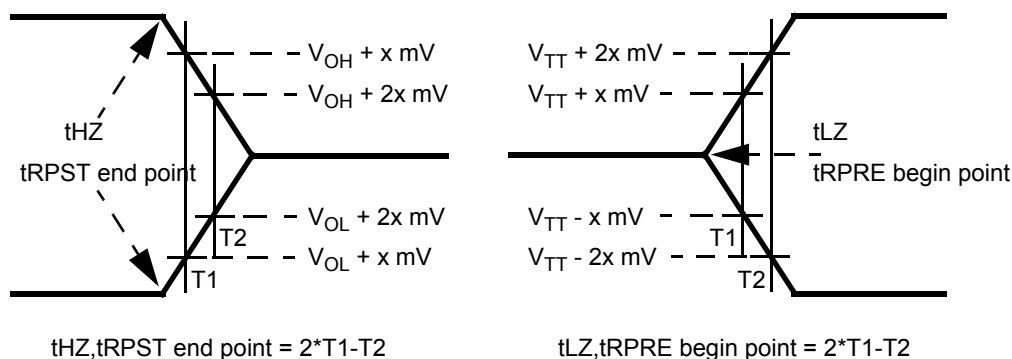

Figure 17 - Method for calculating transitions and endpoints
- $$tDAL = 4 + (15 \text{ ns} / 3.75 \text{ ns}) \text{ clocks} = 4 + (4) \text{ clocks} = 8 \text{ clocks.}$$
18. tHZ and tLZ transitions occur in the same access time as valid data transitions. These parameters are referenced to a specific voltage level which specifies when the device output is no longer driving (tHZ), or begins driving (tLZ) . Figure 17 shows a method to calculate the point when device is no longer driving (tHZ), or begins driving (tLZ) by measuring the signal at two different voltages. The actual voltage measurement points are not critical as long as the calculation is consistent. tLZ(DQ) refers to tLZ of the DQS and tLZ(DQS) refers to tLZ of the (U/L/R)DQS and (U/L/R)DQS each treated as single-ended signal.
19. tRPST end point and tRPRE begin point are not referenced to a specific voltage level but specify when the device output is no longer driving (tRPST), or begins driving (tRPRE). Figure 17 shows a method to calculate these points when the device is no longer driving (tRPST), or begins driving (tRPRE) by measuring the signal at two different voltages. The actual voltage measurement points are not critical as long as the calculation is consistent.